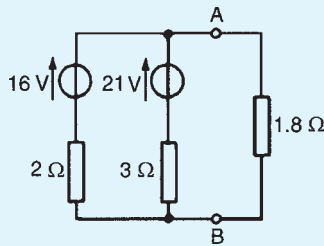

Figure 13.78
3. (a) Convert the network to the left of terminals AB in Fig. 13.78 to an equivalent Thévenin circuit by initially converting to a Norton equivalent network.
- (b) Determine the current flowing in the 1.8Ω resistance connected between A and B in Fig. 13.78